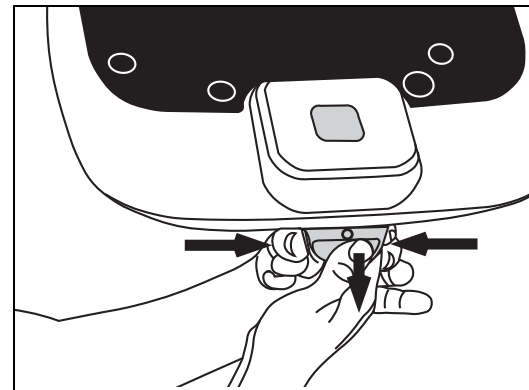

Figure 21: Grasp the headphone jack and remove it from the console
1. Firmly grasp the headphone jack, located under the display console. With one hand squeeze the sides near the top while pulling down with your thumb using your other hand. See Figure 21. You may find it helpful to wiggle the jack from side to side. The headphone jack should pop off the display console, with the audio cable still connected.